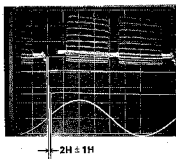

Fig. 5-3
- Adjust data by **ARROW** keys so that decay point of V sync signal delays $2\text{H} \pm 1\text{H}$ from zero cross point of AC power source as shown in Fig. 5-3.